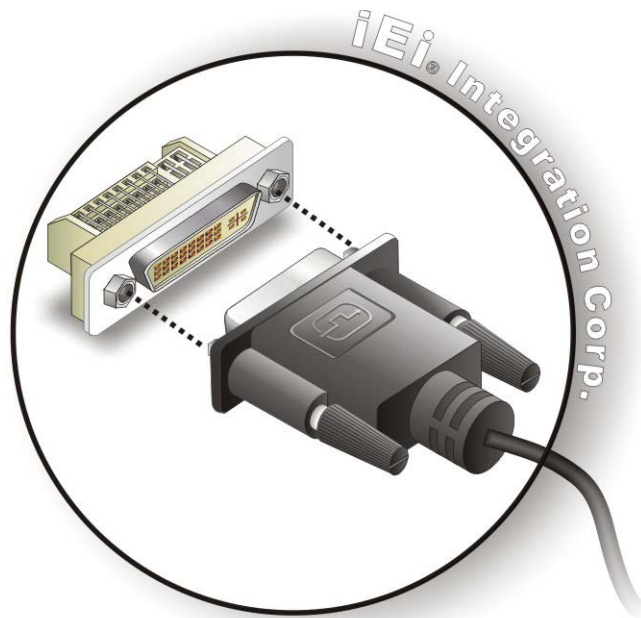

Figure 3-13: DVI Connector
Step 3: Insert the DVI connector. Once the connectors are properly aligned with the male connector, insert the male connector from the digital display device into the female connector on the TANK-860-HM86 Series. See **Figure 3-13**.